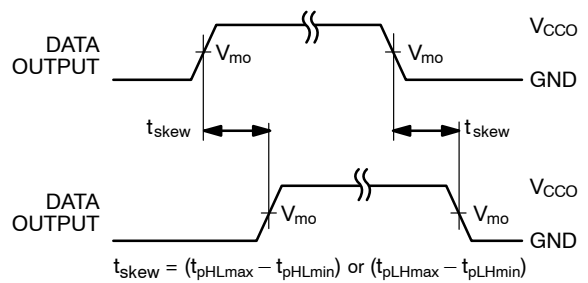

Figure 15. Output Skew Time
14. Skew is the variation of propagation delay between output signals and applies only to output signals on the same port (A_n or B_n) and switching with the same polarity (LOW-to-HIGH or HIGH-to-LOW) (see Figure 15). Skew is guaranteed, but not tested.